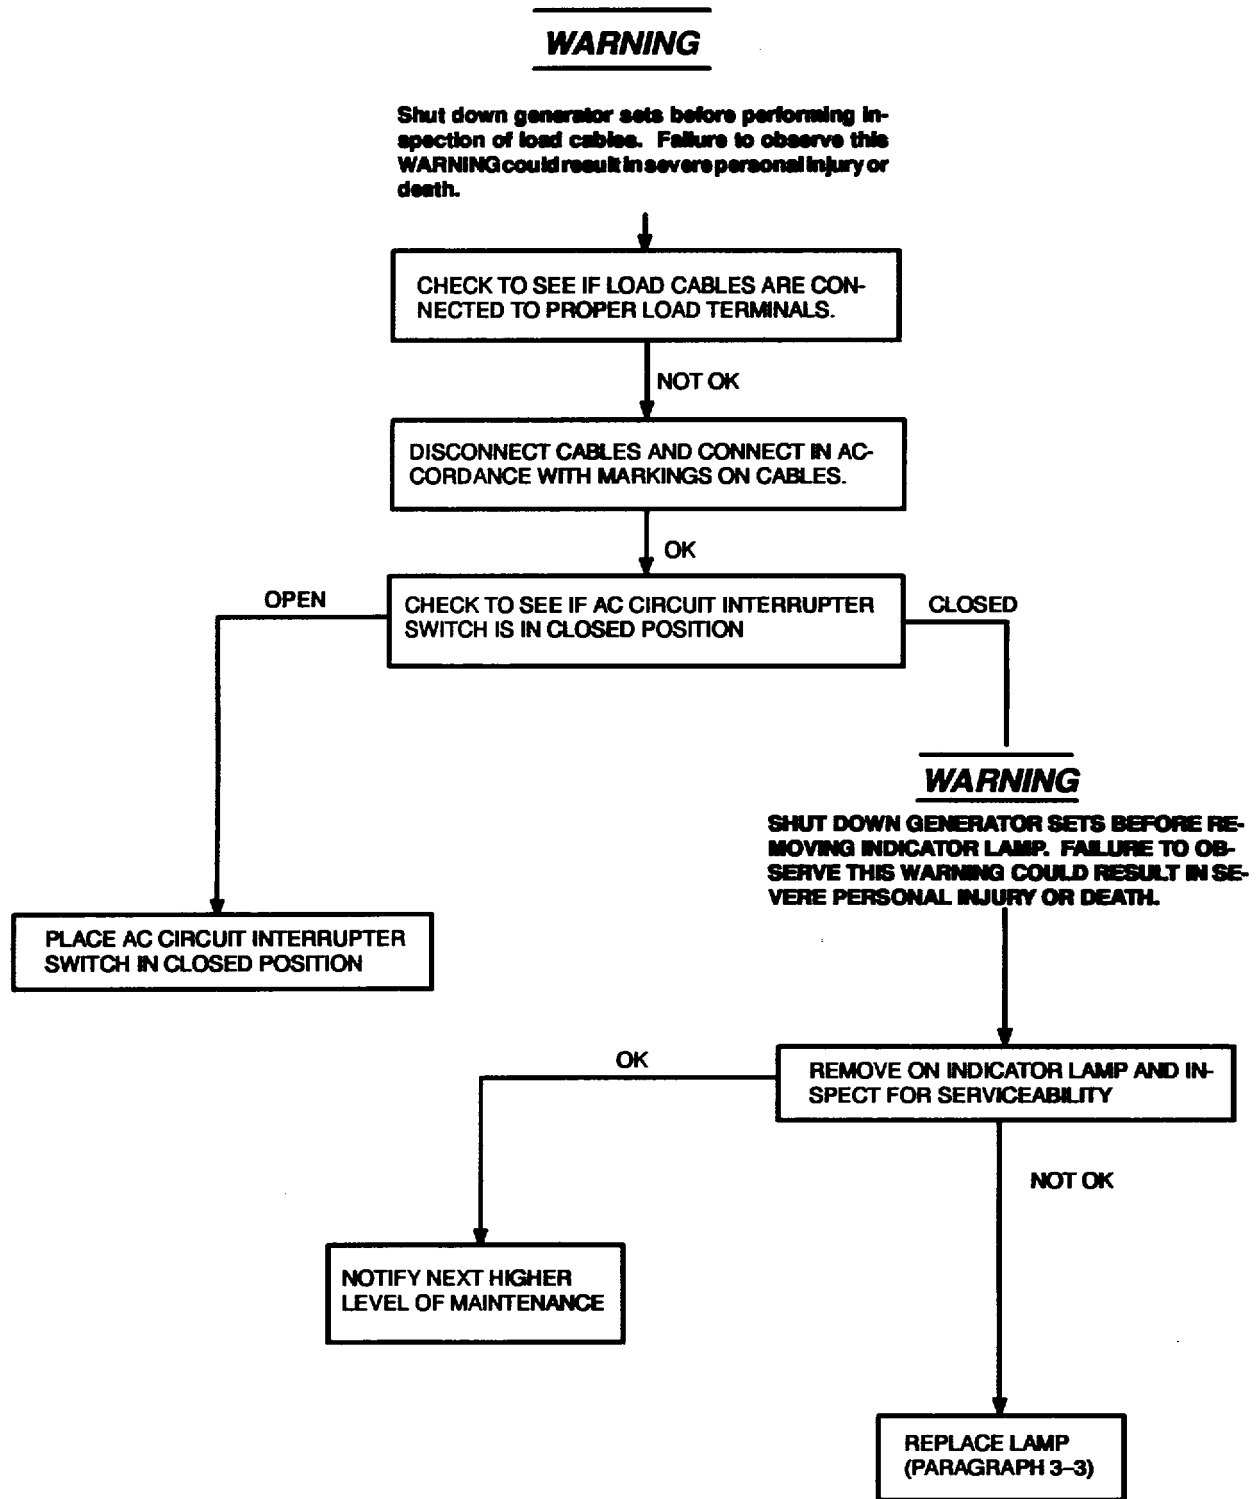

Figure 3-1. ON Indicator Lamp Falls to Light With Generator Set Running.
**3-2.3 Power Plant.** The following symptom index lists faults associated with switch box operation. Figures 3-1, 3-2, and 3-3 provide a go/no-go flowchart of each malfunction. Each malfunction listed includes a reference to the applicable figure that contains a chart that will help you determine probable causes and corrective actions to take. The symptom index cannot list all faults that may occur, nor all tests or inspections and corrective actions. If a malfunction is not listed or cannot be corrected by listed corrective actions, notify next higher level of maintenance.